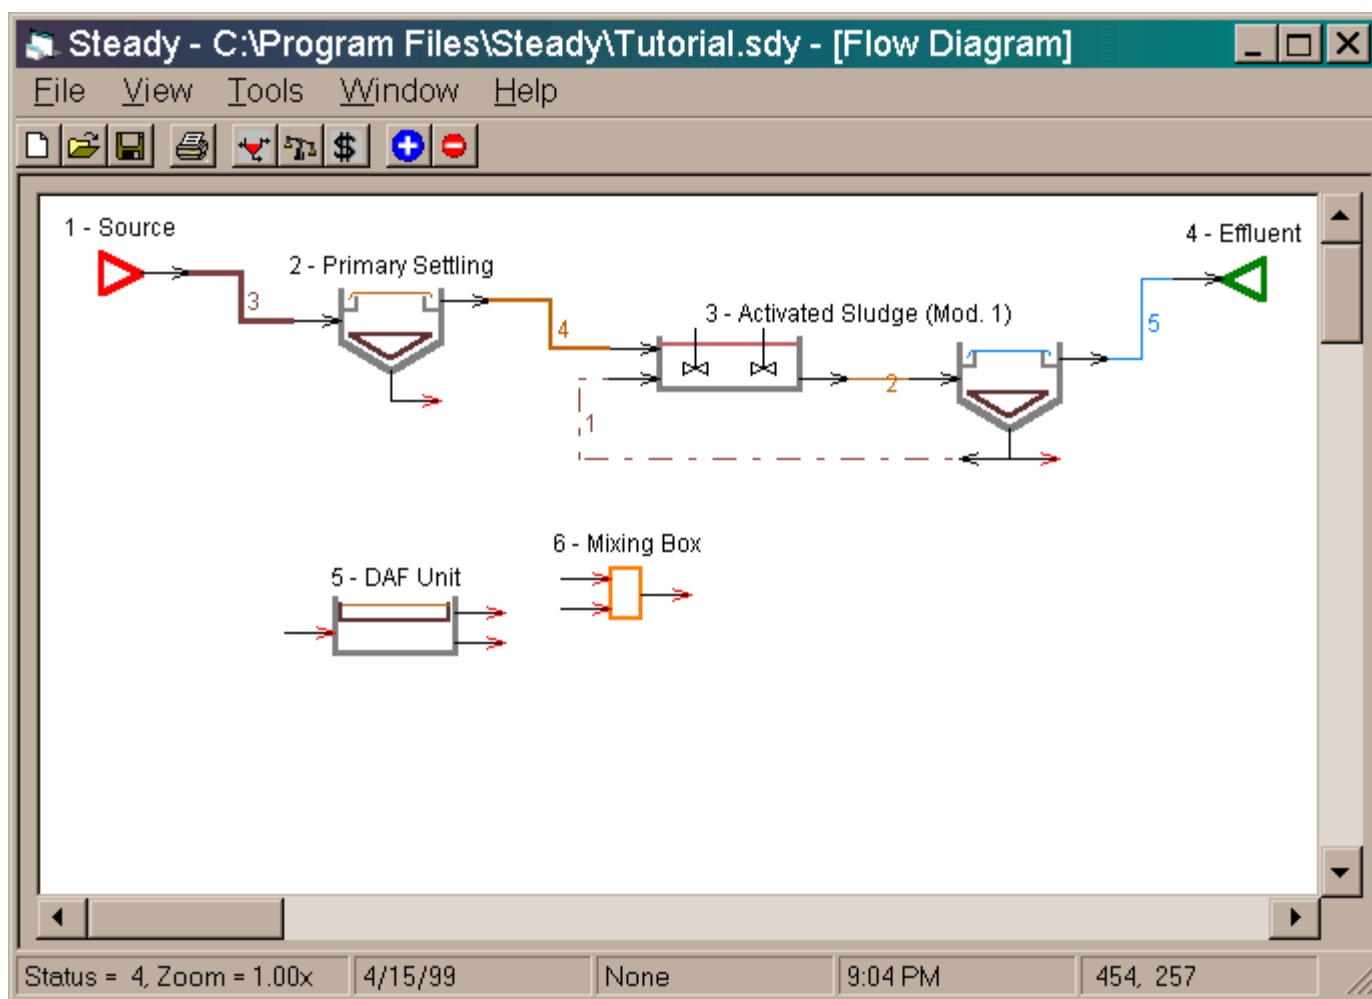

Figure 5 - Initial Location of DAF Unit
11. Now add a mixing box to combine the primary and thickened secondary sludge. Select **Stream Mixing** and in the dialog box that will appear select **2 In/Outlets**, then click **OK**. Place the mixing box to the right of the DAF unit. Your diagram should resemble Figure 5.